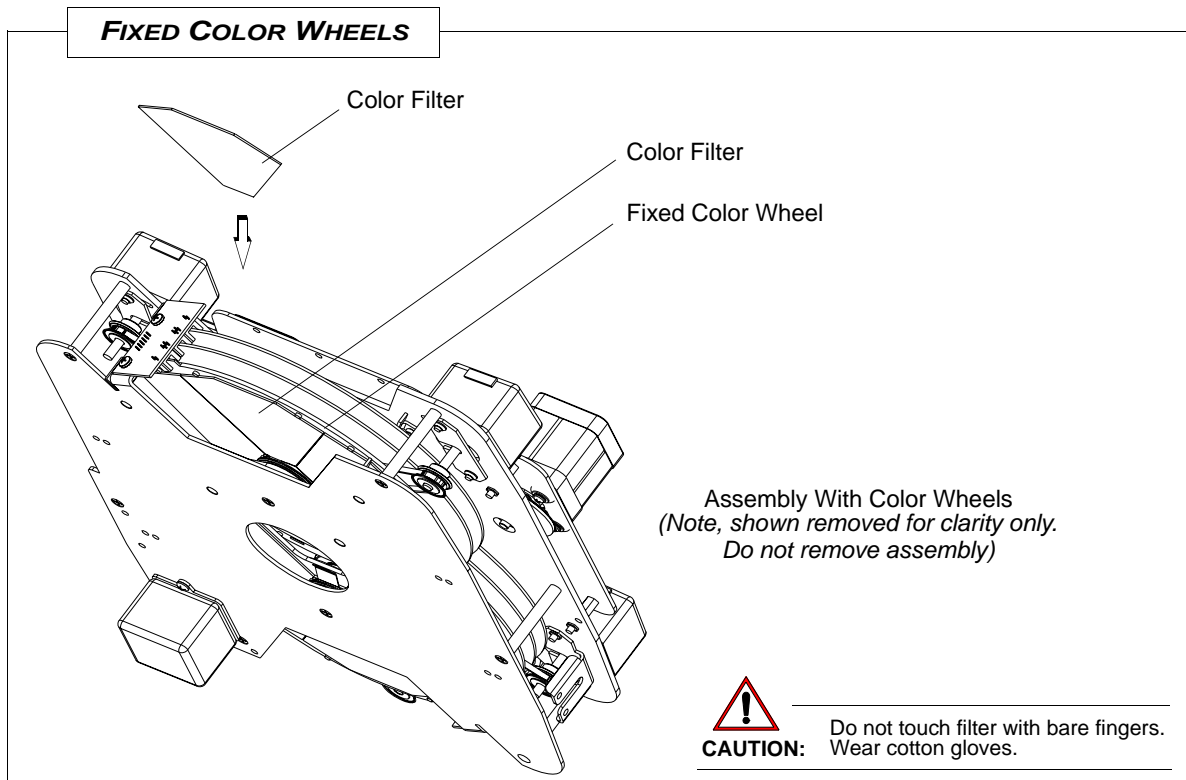

Figure A-5: Replacing a Color Filter
- Step 4. As shown in Figure A-5, rotate Color Wheel 1 until the filter you are changing is accessible.
- Step 5. As shown in Figure A-5, gently press the color filter toward the lens until it is free of the lock pins. Remove the filter.